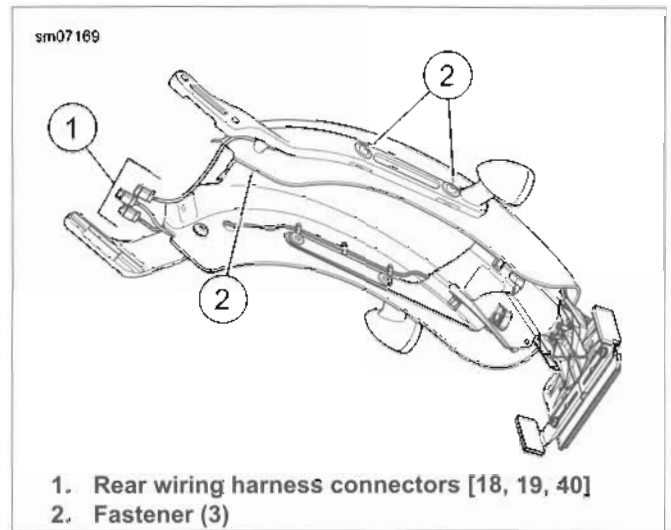
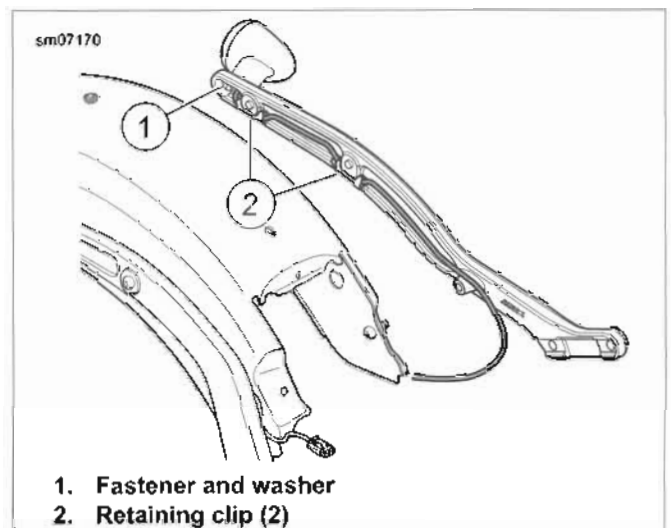
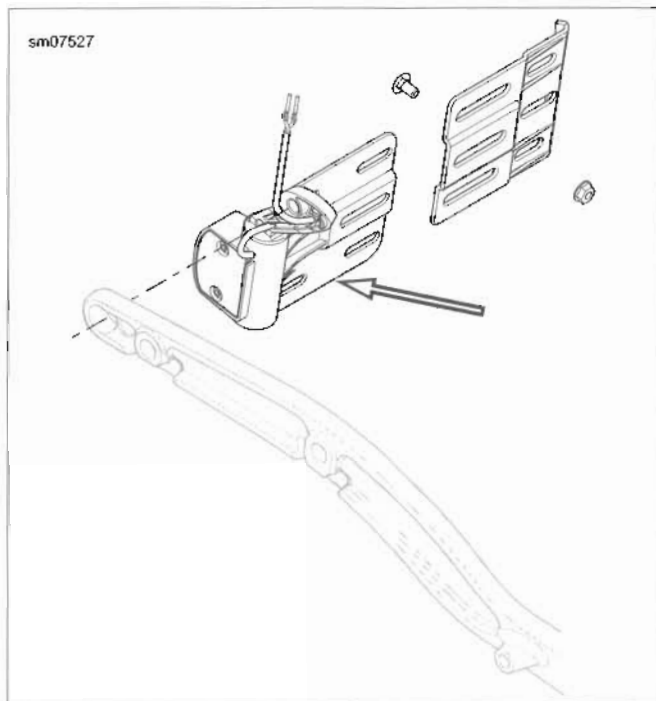

Figure 7-58. Turn Signal Housing: FLS
Figure 7-59. Turn Signal Wire Routing: FLS
Figure 7-60. License Plate Bracket (Domestic and California Models)
2. See Figure 7-58. Remove fasteners (2) securing fender support to fender.
3. Disconnect pins from 4-Pin connector [18, 19] (1) as needed. Refer to Table 7-8 or Table 7-9. See A.16 DEUTSCH DTM SEALED SOLID BARREL MINI TERMINAL REPAIR.
4. See Figure 7-59. Carefully remove wire from retainer clips (2).
5. Remove fastener and washer (1) securing lamp assembly to fender support.
6. See Figure 7-60. If equipped with side mount license plate bracket, separate turn signal from license plate bracket.
8. See Figure 7-59. Install fastener and washer (1) securing lamp assembly to fender support. Tighten fastener to 12-16 ft-lbs (16.3-21.7 Nm).
9. Route wires of **new** lamp along fender support. Make sure **new** wires are properly positioned in the retaining clips (2).
11. See Figure 7-58. Clean threadlocking compound from fasteners (2) and threaded holes prior to assembly.
12. Apply LOCTITE 243 MEDIUM STRENGTH THREAD-LOCKER AND SEALANT (blue) to fasteners (2) and install fender support to fender using fasteners (2). Tighten fasteners to 21-27 ft-lbs (28.5-36.6 Nm).